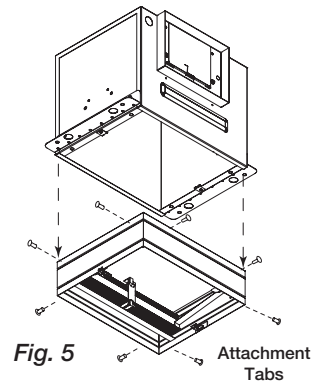
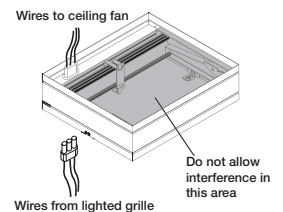

Fig. 5
Fig. 6
3. To mount the ceiling radiation damper to fan, make sure grille attachment tabs are facing down. Then place the inlet part of the fan into the ceiling radiation damper collar, and use self-tapping sheet metal screws (by others) to screw through the damper collar and into the fan housing, shown in Fig. 5. If the fan/light combination is being used, make sure ceiling radiation damper has a electrical plug in it. The electrical plug must be inserted into the fan. Make sure the electrical wire will not interfere with damper operation, shown in Fig. 6.